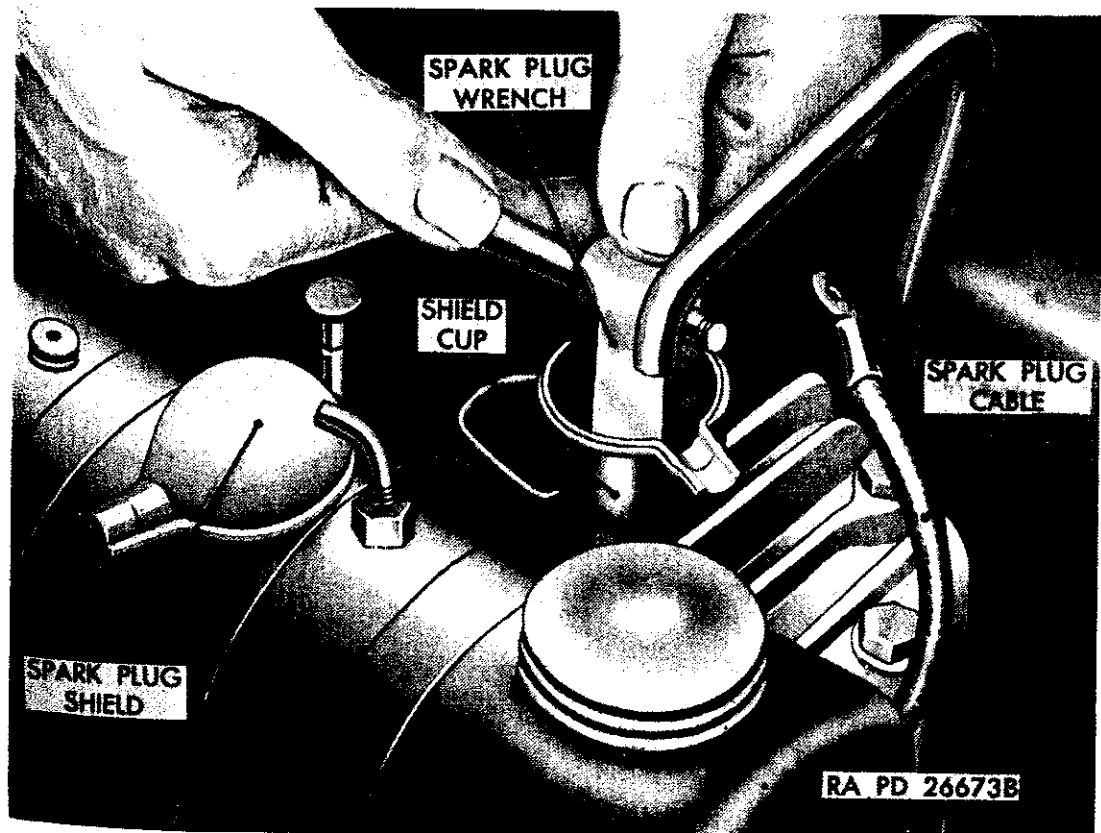

Figure 57. Power charger—removal of spark plug.
- (1) Lift up on the arm of the spark plug shield (fig. 57) that holds the spark plug cover to the shield cup. Remove the spark plug shield.
- (2) Disconnect spark plug cable from spark plug by removing one nut.
- (3) Using spark plug wrench, remove spark plug.
- (4) Remove spark plug gasket.